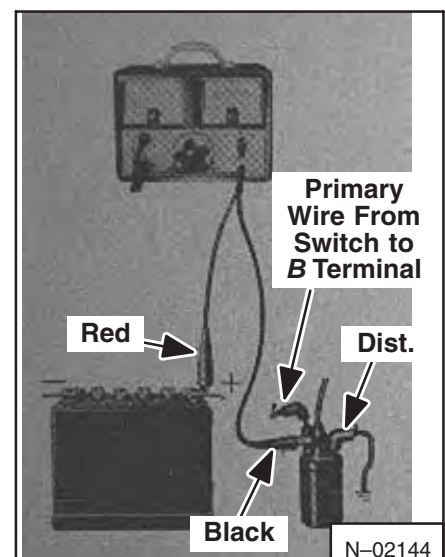

Fig. 7B-11 Battery To Coil Test
1. Connect the voltmeter wires as shown in (Fig. 7B-11).